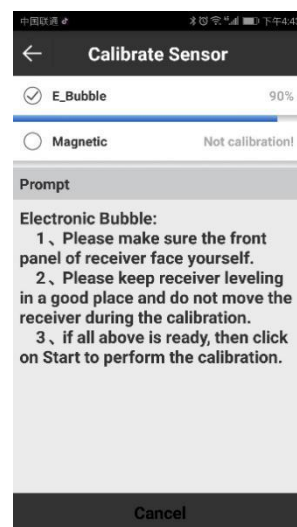

Figure 4.9-2
(2) Center the bubble on the retractable pole and press [Start]. E-bubble and bubble on the retractable pole are in center at the same time and E-Bubble is shown in green as shown in Figure 4.9-2.